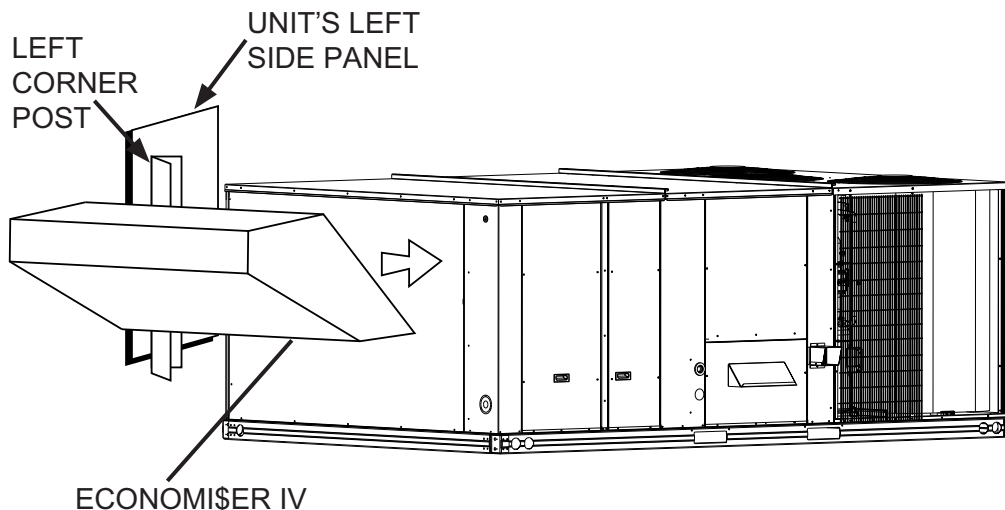
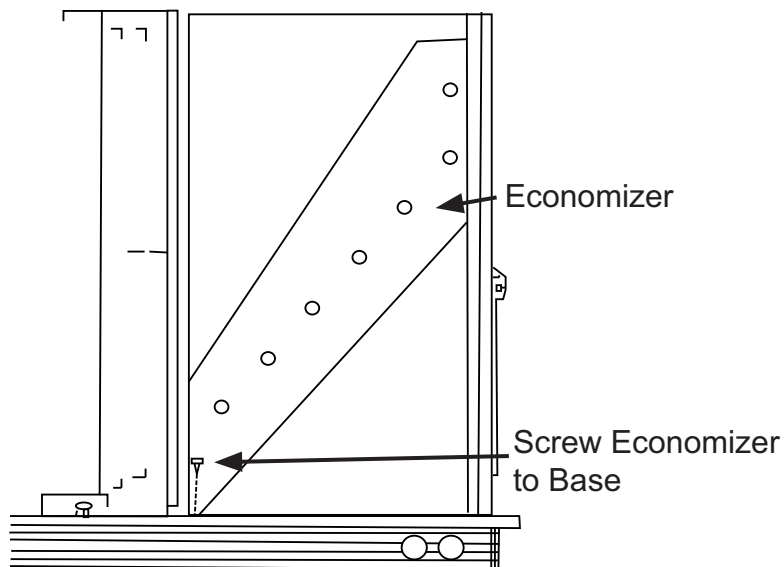

Fig. 3 — Unit Left Side Panel and Corner Post
Fig. 4 — Side View
4. Remove the unit's left side corner post and left side panel from the unit to allow for easy economizer installation. (See Fig. 3.)
5. Install economizer, as shown in Fig 3, into the return air section of the unit. Be careful not to pinch the wires during installation. The bottom of economizer will rest on the base of the unit. (See Fig. 4.)
7. Insert provided screw through the bottom left rear of the economizer and into the unit base. (See Fig. 4.) Reinstall the unit's left side panel.
5. Install economizer, as shown in Fig. 3, into the return air section of the unit. Be careful not to pinch the wires during installation. Bottom of economizer will rest on the base of the unit. (See Fig. 4.)
7. Insert provided screw through the bottom left rear of the economizer and into the unit base. (See Fig. 4.) Install the new (provided) left side panel without the duct opening on the unit.